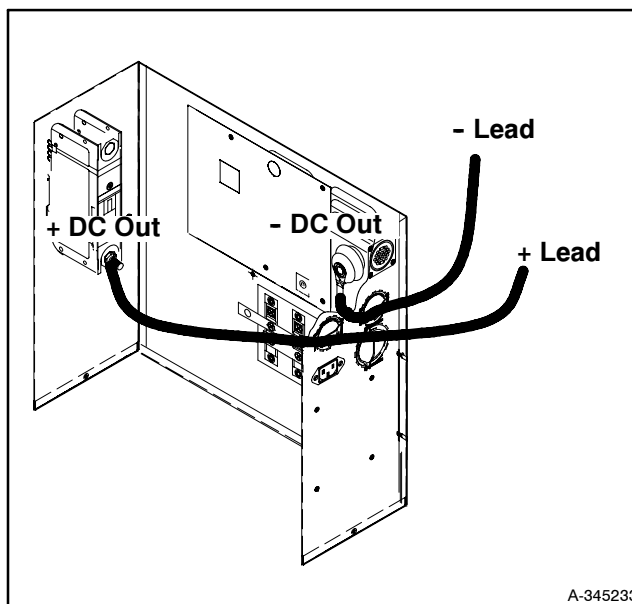

Figure 6-8 Standard COM6 DC Output Connections
Standard units have the circuit breaker connected on the positive (+) side of the DC output. Connect the output leads inside the controller box as described below and shown in Figure 6-8. Use cable that meets the specifications described in Section 6.1.4, DC Output Cable Sizing.
2. Connect the negative (-) output lead to the red (or orange) insulated stand-off in the upper back corner of the control box. See Figure 6-8.